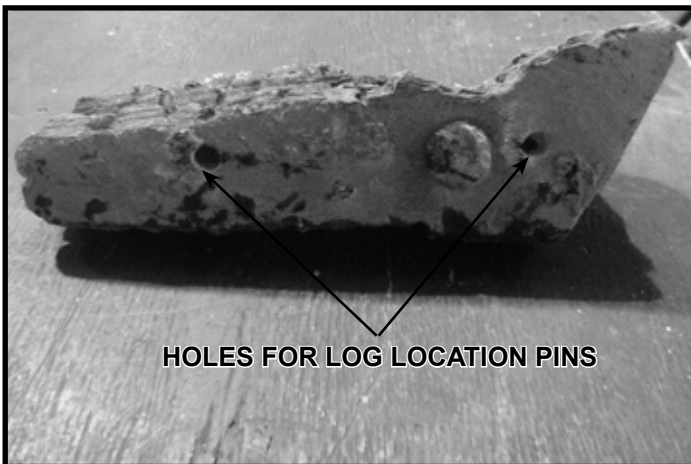
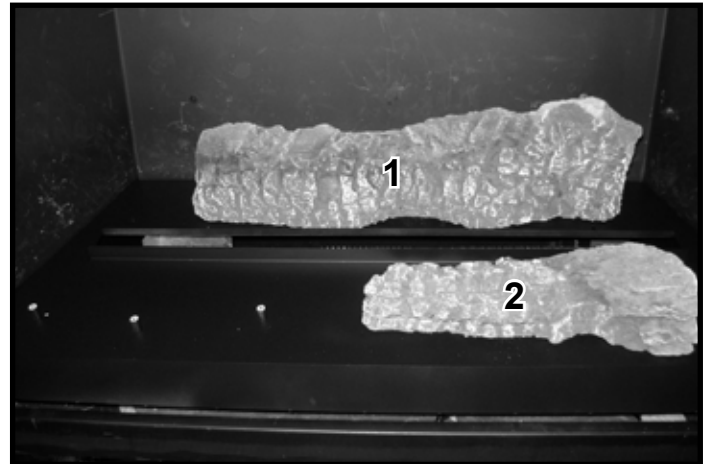

Figure 5. Log #2 - Bottom View
Figure 6. Log #2 in Position
**Log #2 (SRV2033-709):** Log #2 has holes on the bottom side that will be used for positioning them in the firebox. See Figure 5. Place Log #2 on the pins in the front of the firebox as shown in Figure 6.